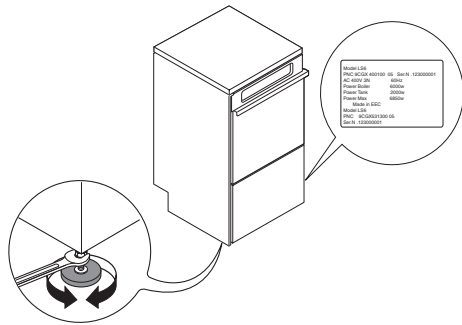

Figure 6
The rating plate contains identification and technical data and is located on the right-hand side panel of the appliance (Figure 6).
- Position the dishwasher and level the appliance by adjusting the appropriate bullet feet (Figure 6).